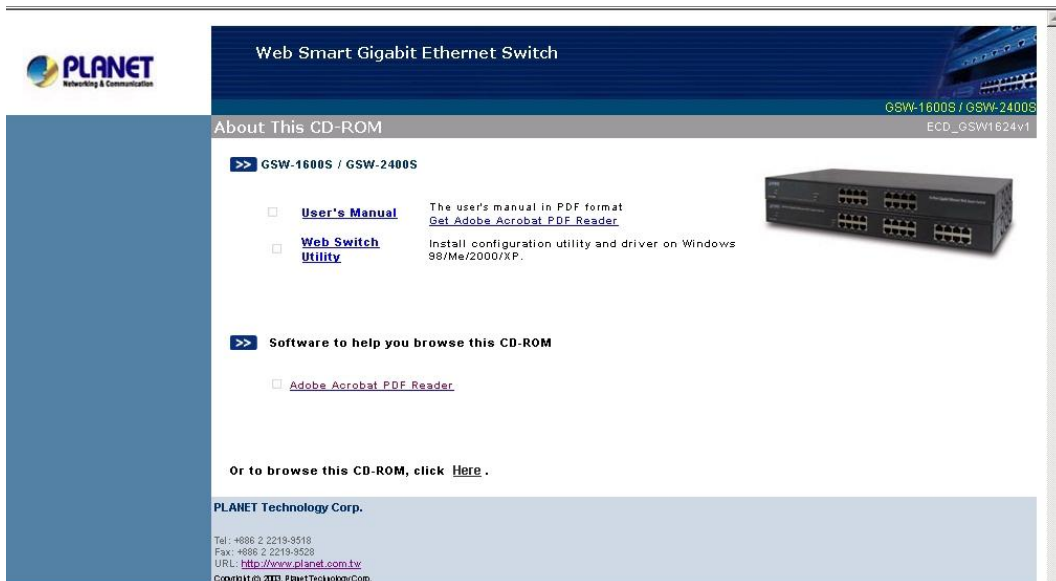

Figure 3-1 Auto run program in manual CD
2. The installation program in manual CD then auto run up an application window as in **Figure 3-1**.